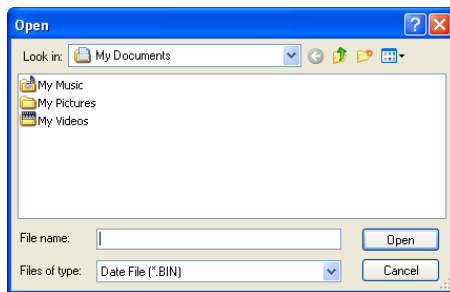
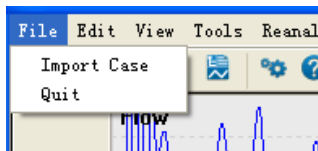

Figure 5.20
Figure 5.39
- 1) Click "Import Case" in "File" menu to enter the interface as shown in Figure 5.20, the data of the other patient can be imported while observing the waveform, which is convenient for doctor to comprehensively observing, as shown in Figure 5.39.